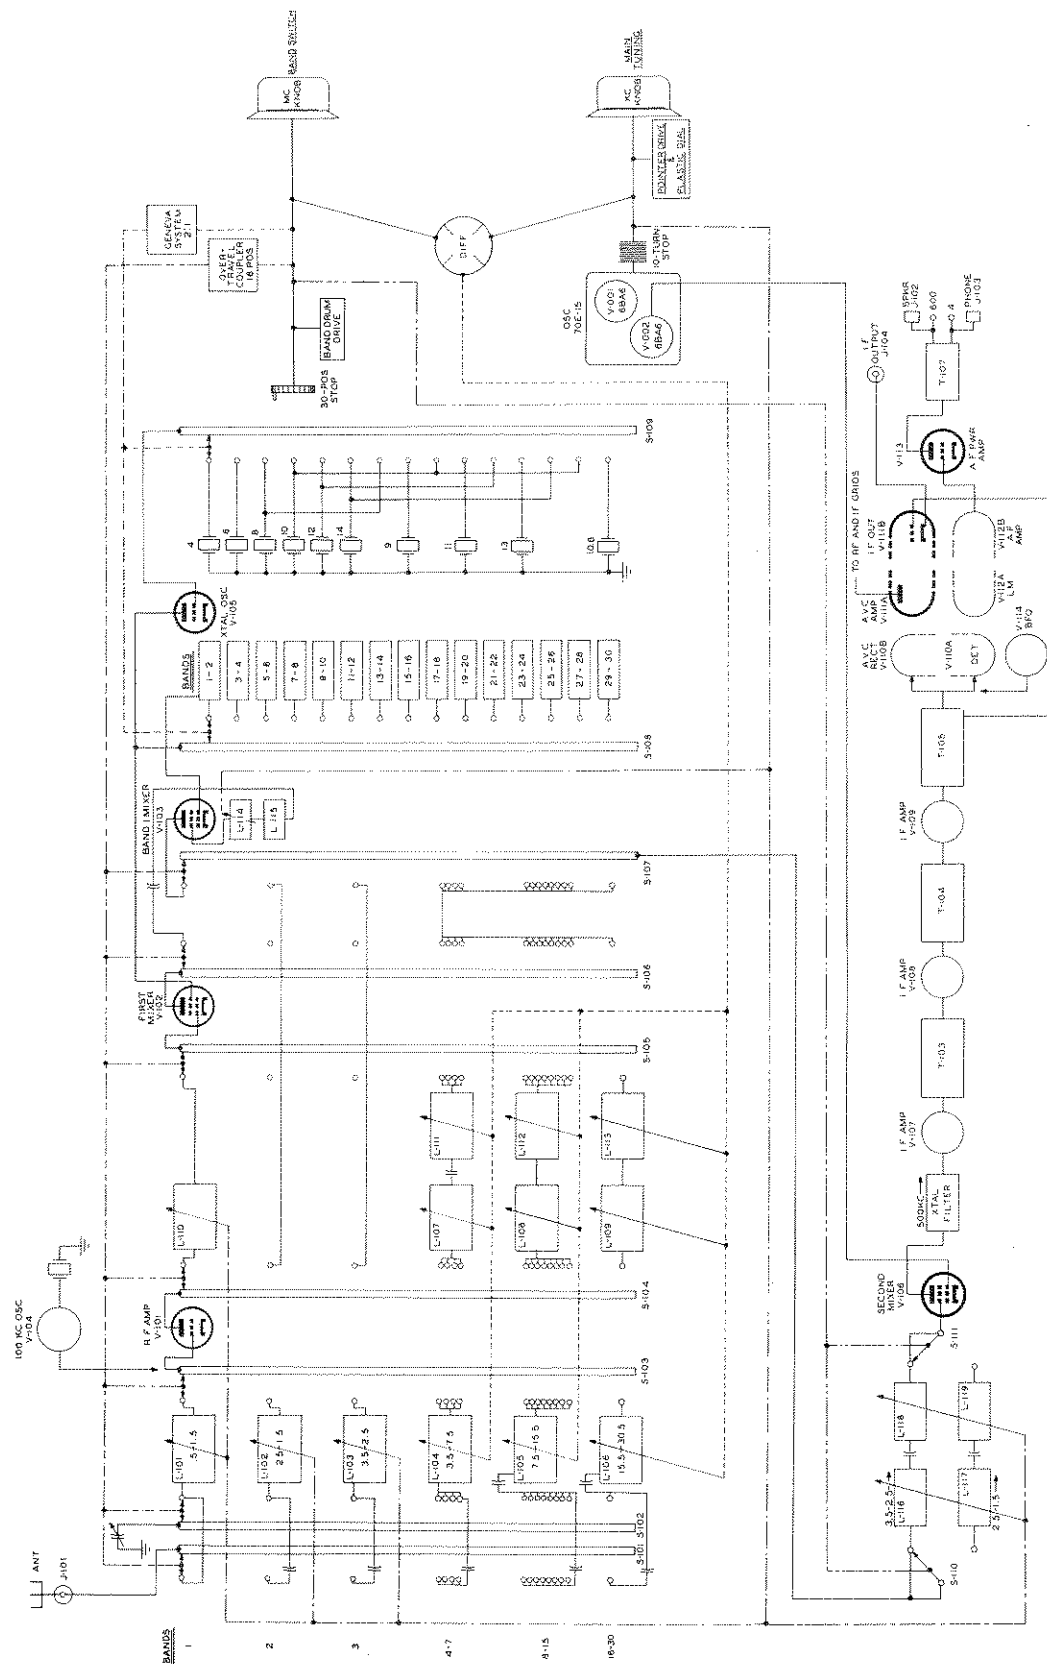

Figure 4-1. 51J-3 Band Change and Tuning System, Block Diagram
4.1.1. BAND CHANGE. - Collins 51J-3 Receiver covers the frequency range of 0.5 to 30.5 mc in 30 bands: 0.5 to 1.5, 1.5 to 2.5, and so on up to 30.5 mc. Each band is one megacycle wide. Circuits affected by band changes are the r-f amplifier grid, first, second, and third mixer grids, crystal selector, and crystal harmonic tuning circuits. The third mixer is switched in only on band 1 (.5 to 1.5 mc). See figure 4-1.
4.2.2. RADIO FREQUENCY AMPLIFICATION. - Refer to the block diagram, figure 4-1. One stage of radio frequency amplification is (V101) used on all bands. A type 6AK5 miniature r-f pentode is employed in this stage because of its low noise and good sensitivity characteristics at high frequencies. The antenna is capacitively-coupled to the grid of the r-f stage on all bands. The r-f coils for bands 1, 2, and 3 are mounted in the variable i-f group and are tuned by slugs mounted on the variable i-f slug table which is at the extreme right hand edge of the receiver as viewed from the front. The coils for bands 4 to 30 are clustered at the rear of the chassis and are tuned by slugs mounted on the three r-f and mixer slug tables.